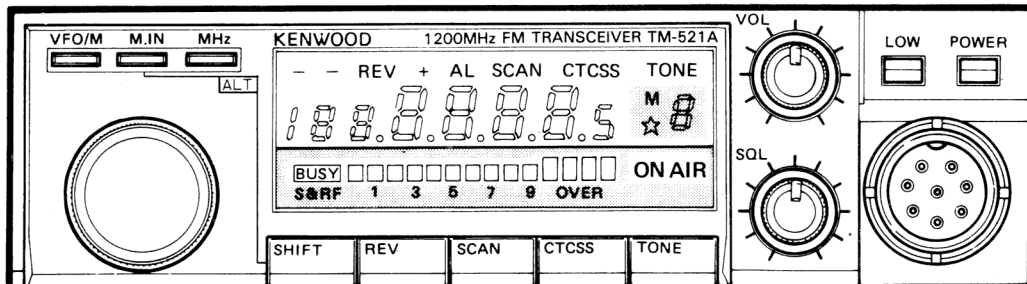

Fig. 25
- 6) Meter and display section should be set as follows **Fig. 25**.